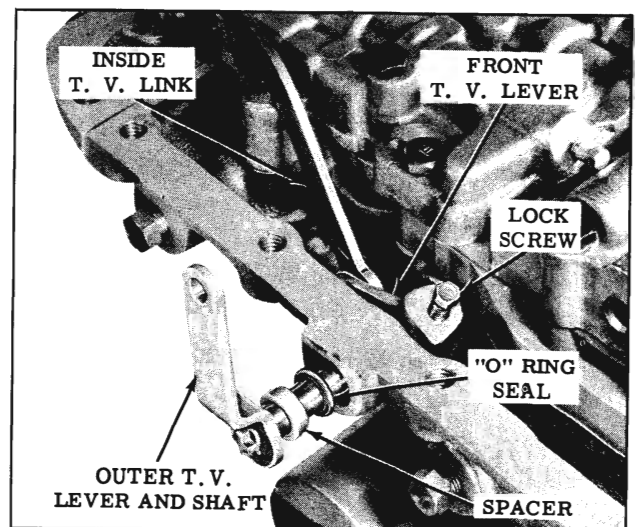

Fig. 3-322 Installing T.V. Link
64. If removed, install inside T.V. link to front T.V. lever assembly and retain with "E" ring. (Fig. 3-322)